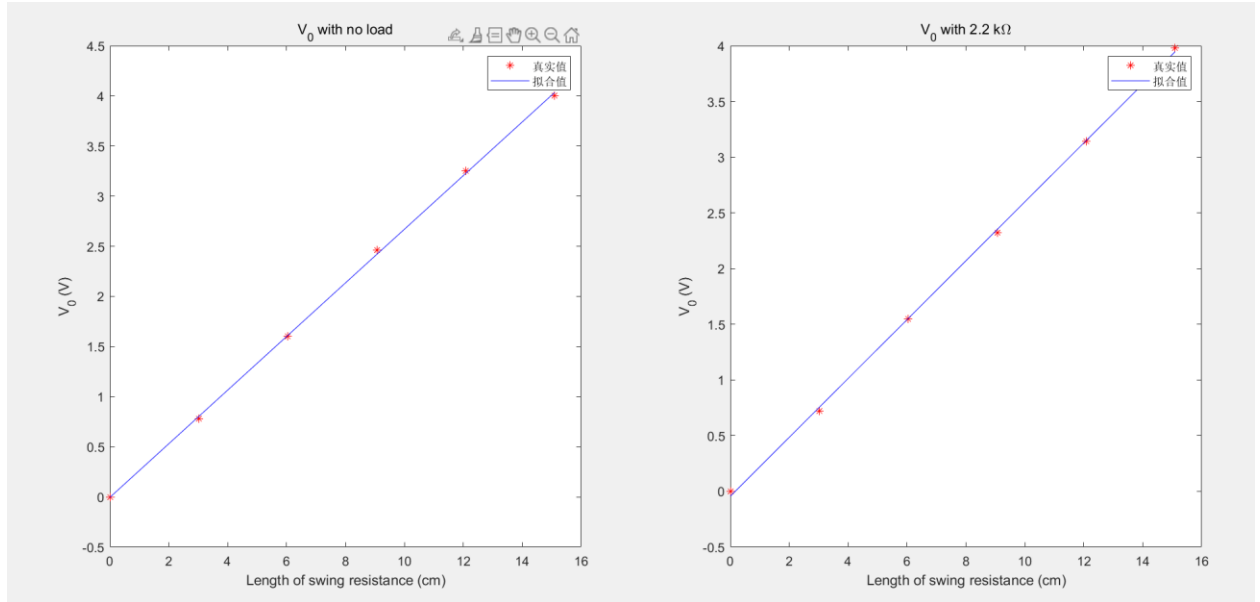

Figure 5. Fitting plot of V₀ and the length of swing resistance
From the experiment, we can find that with increasement of x , the resistance of R_{23} increases correspondently, so do the voltage across it. V_0 reaches the maximum value when the x is equal to the total length L . With the usage of MATLAB to plot the V_0 and length, in Figure 5, we find that the relationship between V_0 and x is linear, which means V_0 is proportional to x .
a) Set up the circuit shown in Figure 5 with $R = 10\text{ k}\Omega$ and $C = 0.033\text{ }\mu\text{F}$. (Be sure to measure the actual resistance and capacitance of these devices using the Fluke DMM.) Use the function generator built into the breadboard to generate a 400 Hz sinusoid (any reasonable amplitude will do) for the input signal V_i .